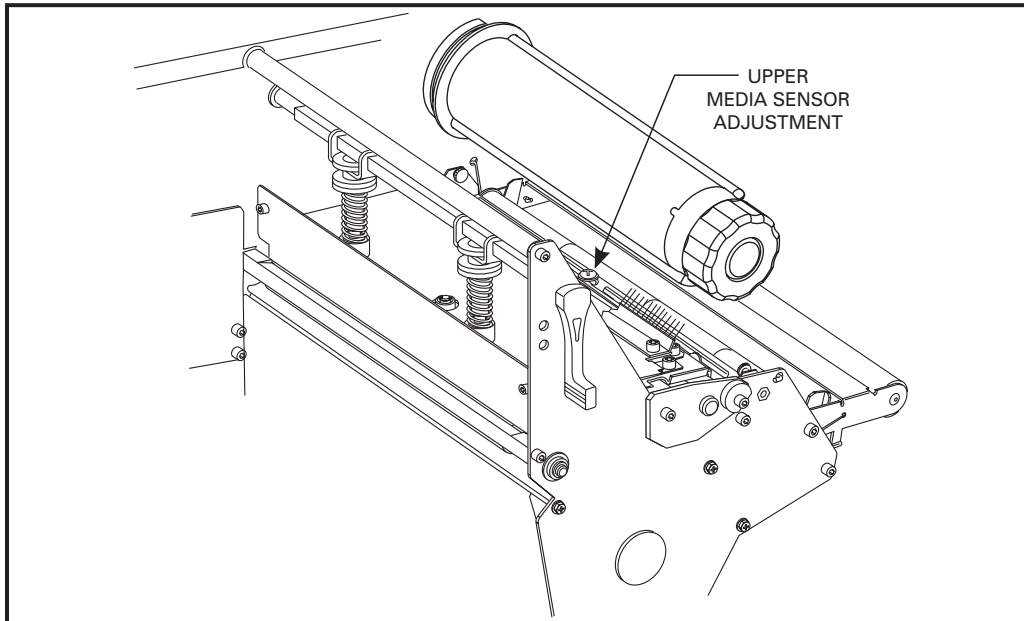

Figure 4. Upper Media Sensor Adjustment
2. Locate the Upper Media Sensor. Refer to Figure 4. The Upper Media Sensor is directly below the adjustment screw head.